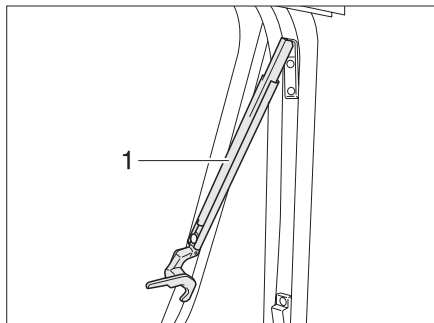

Fig. 46 Hinged window with automatic hinges, open
- ▶ Open the hinged window to the desired latched position. The automatic hinge (Fig. 46,1) locks in place automatically.